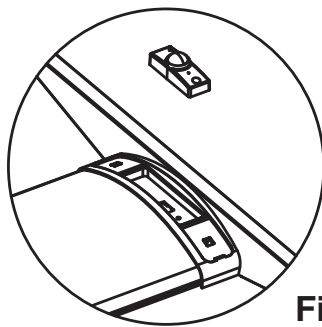

Fig. 3
2. Plug the c-Max™ into the USB-C receptacle via the USB connection (see Fig. 3).